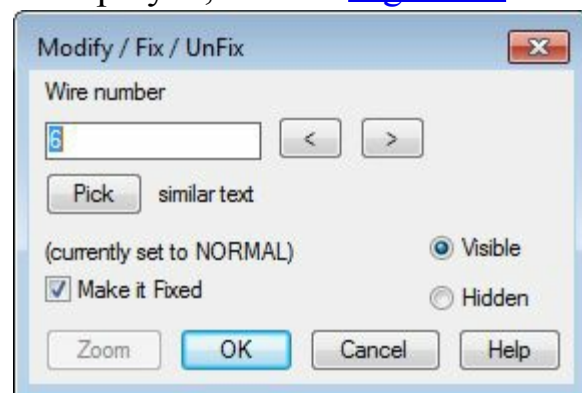

Figure-51. Modify or Fix or UnFix dialog box
- Select the wire or wire number that you want to change. The **Modify/Fix/UnFix** dialog box will be displayed; refer to Figure-51.